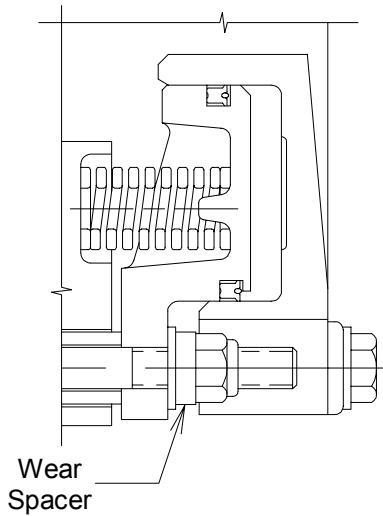

Fig. 6
- 4.2.9 Lubricate the threads on the ends of the studs with 30 wt. oil or anti-seizing compound and install the locknuts (18), washers (17) and the wear spacers removed in 4.2.5. The wear spacers are "stored" under the locknuts for use after replacing friction discs. See Figure 6.